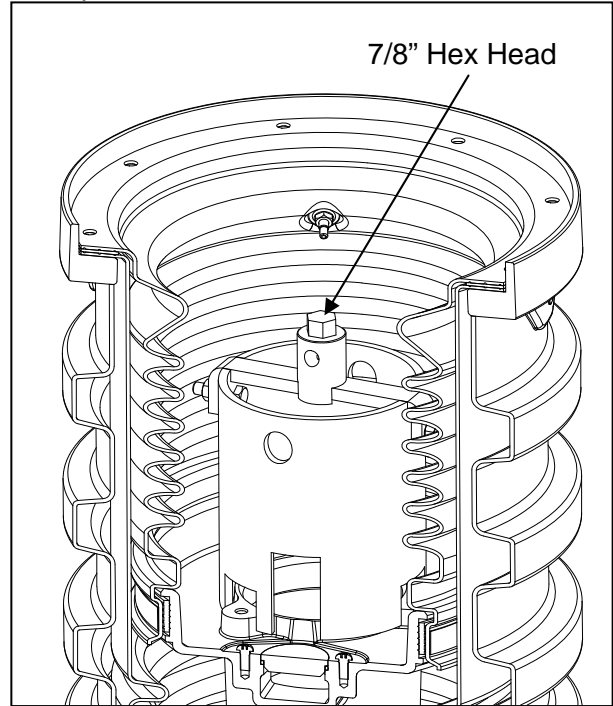

Figure 5
**Setting Torque:** (See Figure 5)